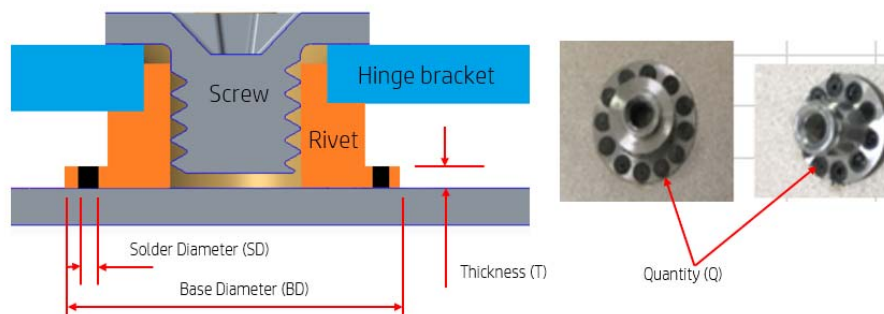
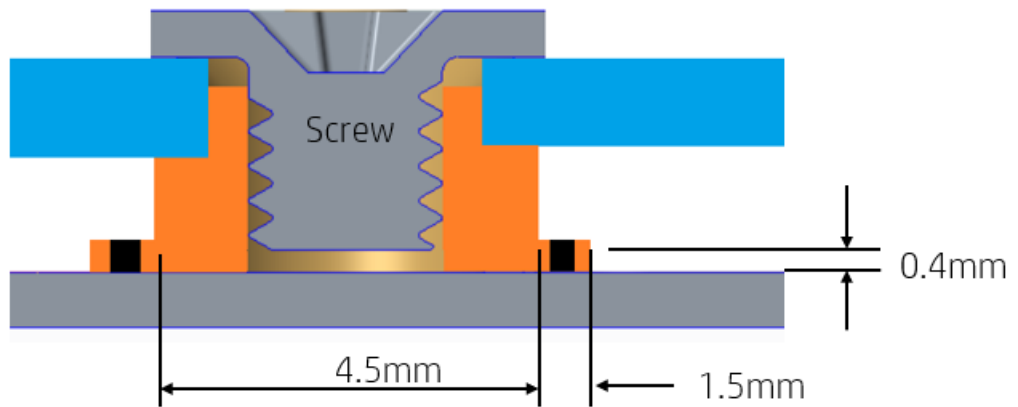

Fig. 2 Optimization soldering parameter and rivet dimension
Fig. 4 Best soldering parameter
This idea is by using bonding the AL plate with rivet by soldering to replace its original plastic frame or CNC metal to make stud. There are 24% ~ 40% space saving for soldering rivet. Refer to Fig. 1 Prior and new solution comparing. This solution is use normal screw rivet to be riveting on AL plate then soldering on the core side of the cover. It's very simply and useful solution. But what kind of material, thickness and quantity of the soldering can meet test condition is very important. We try to verify different base diameter (BD), thickness (T), quantity(Q) and diameter of the solder (SD) to meet pull test >20 kgf test condition (Same with NB design spec). Finally, we found out optimization soldering parameter and rivet dimension. as Fig. 2 Optimization soldering parameter and rivet dimension. We also verified on current NB product. as Fig. 3 Verify on NB product. The most important is that this is process will not cause cavity surface bring mark. We found best value are BD=8mm, Q=10, T=0.4mm and SD=1.5mm can meet >20 kgf spec and no any bring mark on cavity side of the surface and it can PASS 25000 cycles hinge life test. as Fig. 4 Best soldering parameter.